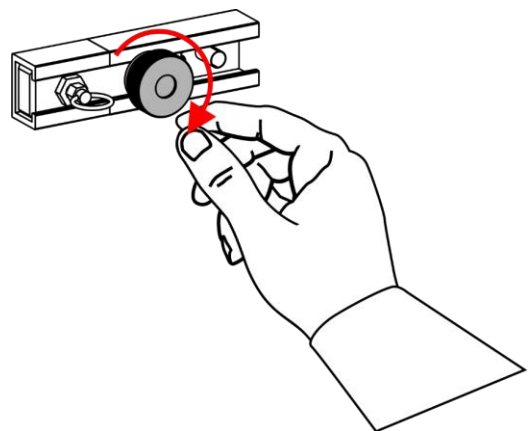

Fig. 15
- 05) Tighten the adjustment screw clockwise on the connection mechanism (16), as shown in Fig. 15. Make sure that the device cannot move freely after the **adjustment screws (01)** are tightened.